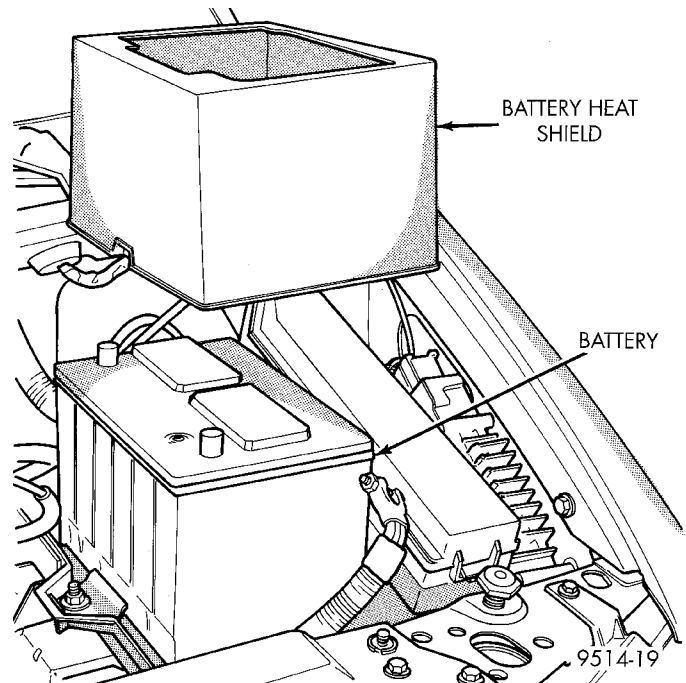

Fig. 32 Battery Heat Shield
- (3) Remove heat shield from battery (Fig. 32).